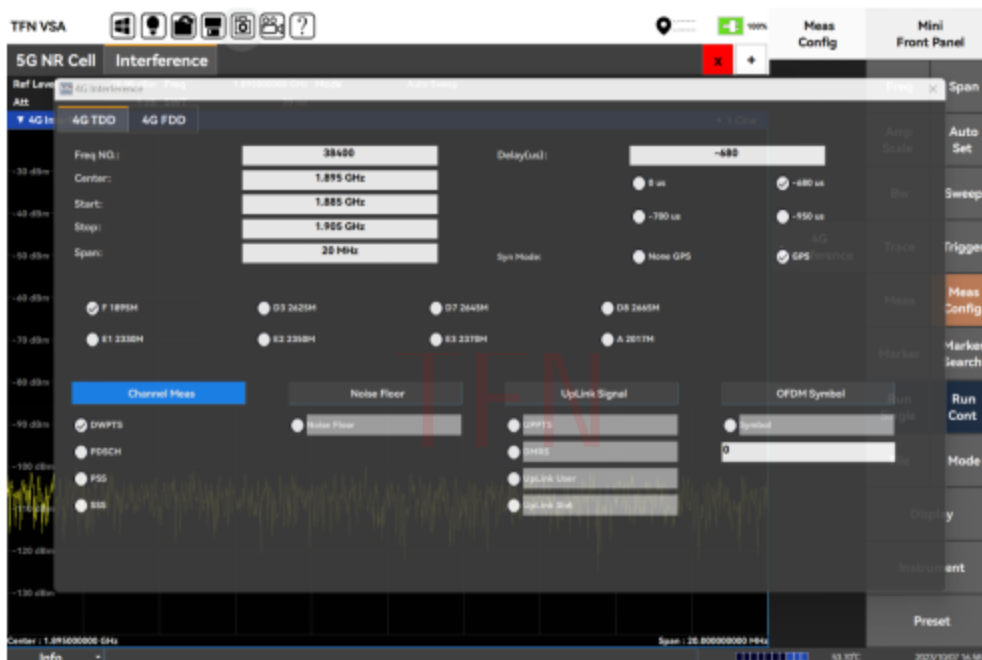

Figure 7.27 4 GFDD interference selection
Step 4. Select the 4 GFDD mode, as shown in Figure 7.27:
- Select [GPS] synchronization, 4 GFDD interference selection interface is shown in Figure 7.27: